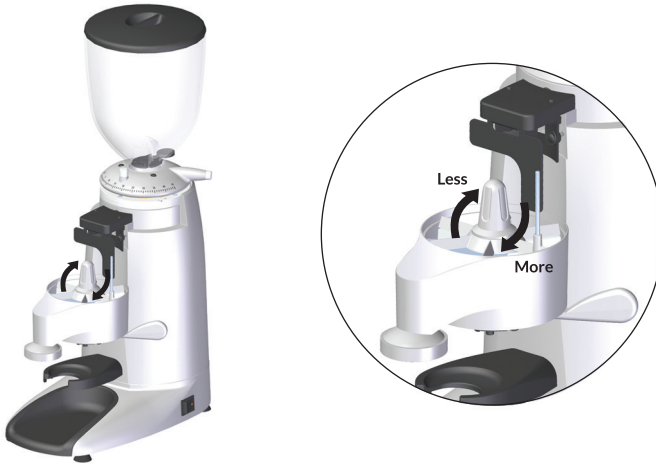

Fig. 6
1. Remove the ground coffee dispenser lid (8) and turn the dispensing regulation screw (9) clockwise to obtain a smaller amount of coffee, and counterclockwise to obtain a larger amount (Fig. 6).
2. Once the quantity of each serving has been regulated, replace the ground coffee dispenser lid (8).